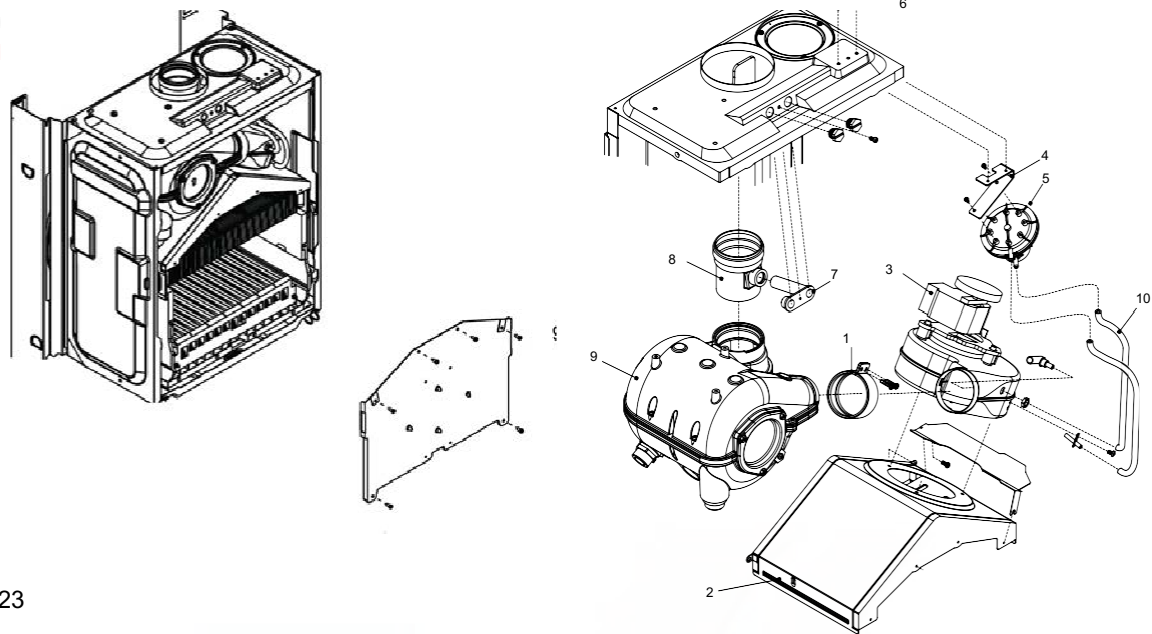

Fig. 23
6.16 FLUE FAN fig. 23
6.17 MAIN HEAT EXCHANGER fig. 23/24
6.18 AIR PRESSURE SWITCH fig. 23